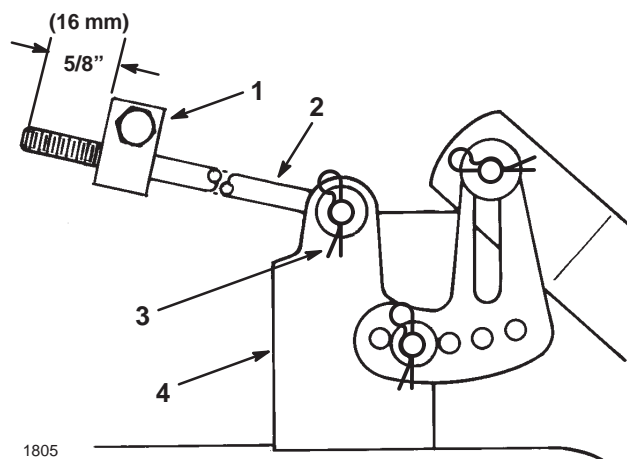

Figure 49
3. Measure the length of the rod extending out the front of the adjusting block on the sides of the chassis (Fig. 49). If the rod length is not 5/8" (16 mm), remove the hair pin cotter and washer from the end of the rod (Fig. 49), and turn the rod until the 5/8" (16 mm) dimension is obtained. Then install the end of the rod into the hole in the mower mount and secure in place with washer and hair pin cotter. Repeat procedure on the opposite side.